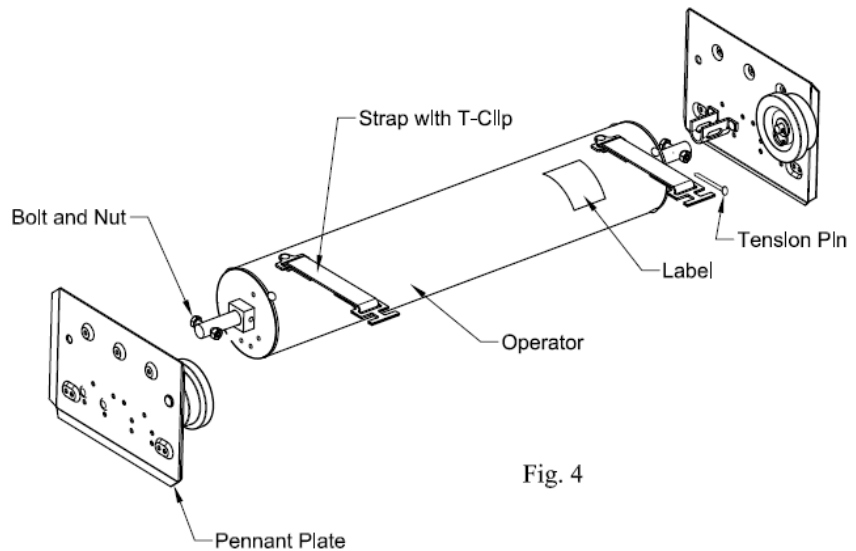

Fig. 4
a) Place the operator shaft into the u-brackets on the pennant plates. The label will be on the right while looking into the compartment as shown in Fig. 4